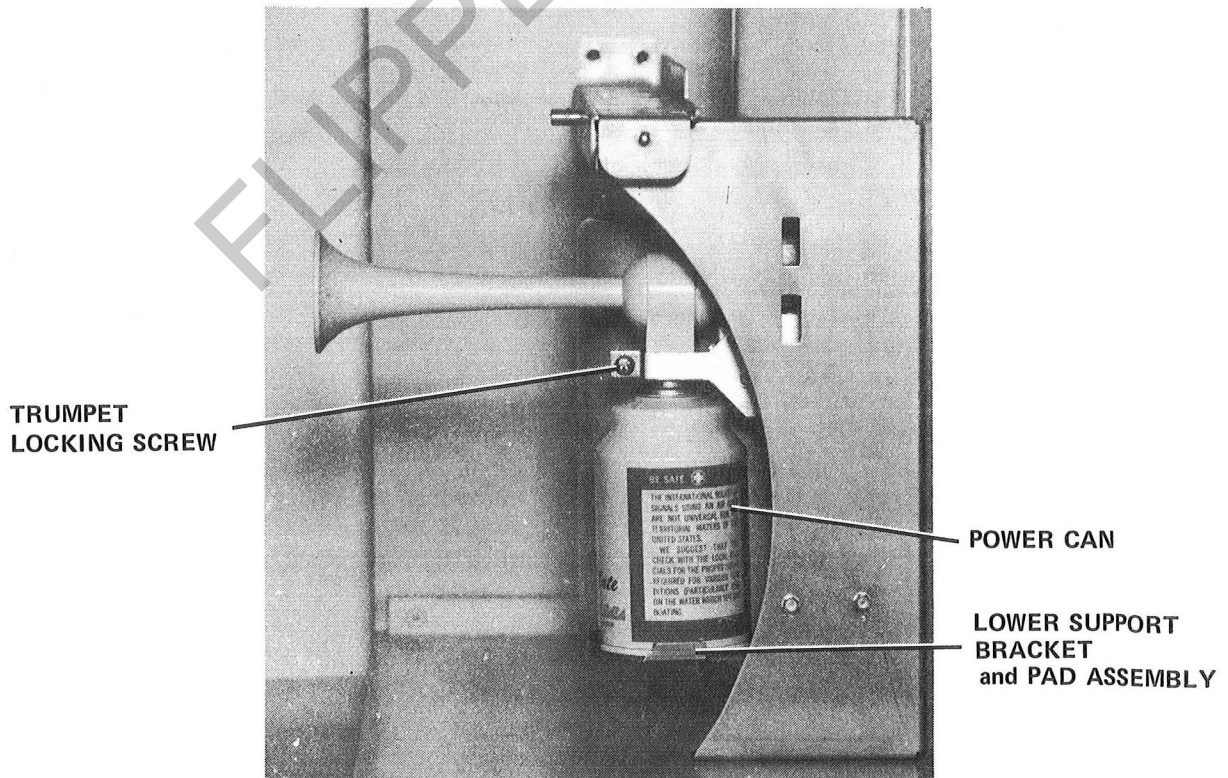

Figure 7.
28. Install Lower Support Bracket and Pad Assembly on Right Hand Chassis Rail and Gusset Assembly, in Model 3600 Phonographs, as shown in Figure 7. Secure with two Screws, Part No. 77498-34. Do not tighten Screws at this time.
30. Verify that Actuator of Mounting Bracket and Actuator Assembly has been reset, then screw Power Can, Part No. 139037, on Trumpet as shown in Figure 7.